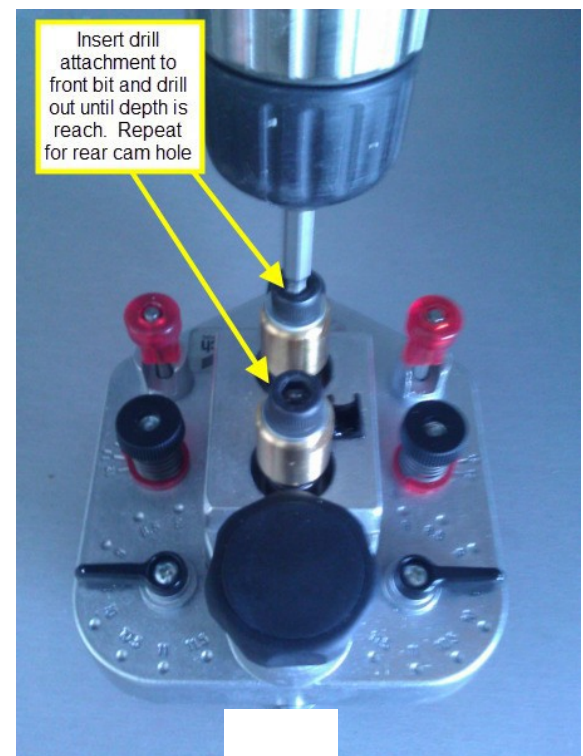

Fig 3
4. Drill both the front and back bits by connecting drill attachment to bits (fig 3)